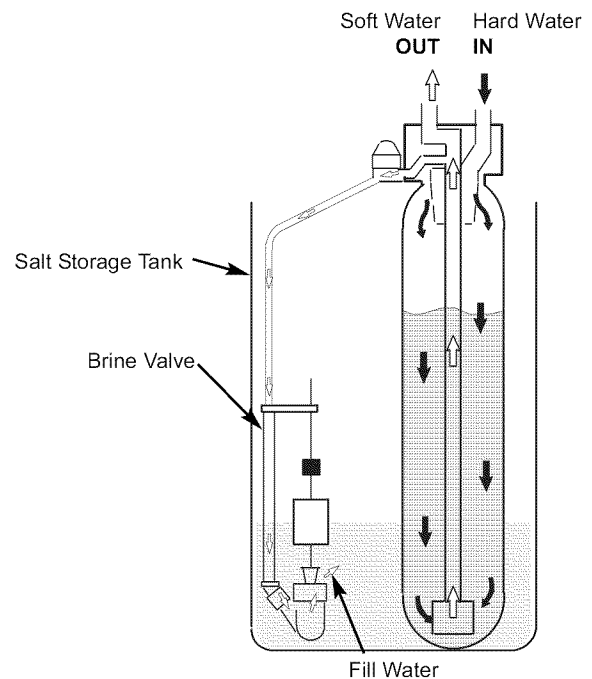

FIG. 42
**FILL:** Salt, dissolved in water, is called brine. Brine is needed to clean the hardness minerals from the resin beads. To make the brine, water flows into the salt storage area during the fill stage. See Fig. 42. Fill cycle length depends on how much soft water making capacity you have used since the last regeneration. As you use more water, fill time increases so more brine is made. The greater amount of brine cleans more hardness minerals from the resin bed.